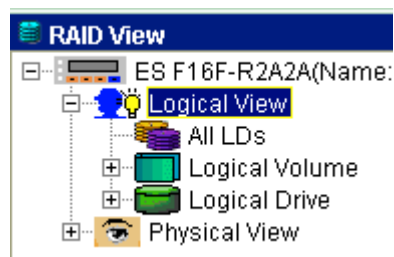
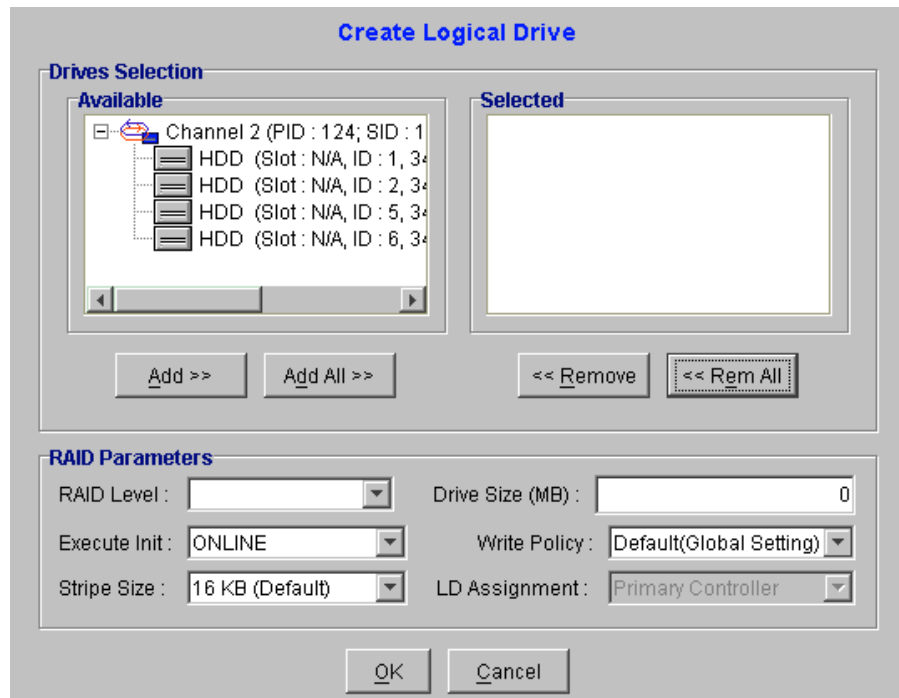
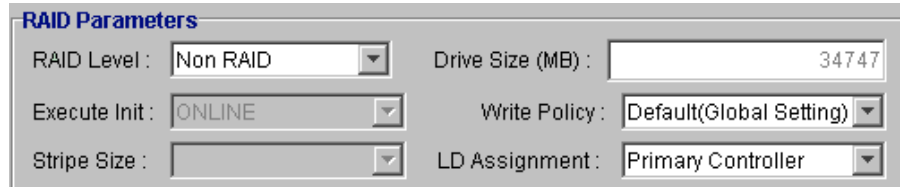
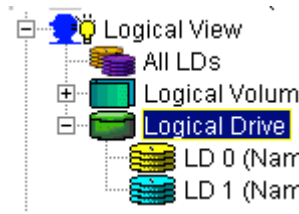

Figure 8-1: Logical View Navigation Panel
Figure 8-2: Create Logical Drive Management Window
Figure 8-5: RAID Parameter Options
Figure 8-14: List of LDs
Step 2. The items shown in *Figure 8-1* should appear in the **RAID View** navigation panel.
Step 3. For LD management, select the “Logical Drive” icon shown in *Figure 8-1*. The screen shown in *Figure 8-2* should appear in the contents panel.
Step 1. The “Available” menu in *Figure 8-2* shows the drives that are can be used to create LDs and the channels to which they have been assigned.
After the physical drives that will be used in the LD have been selected, the RAID parameters for the LD must be selected. RAID parameter options that are available are shown in *Figure 8-5* and can be accessed at the bottom of the LD Management Window shown in *Figure 8-2*.
Step 1. Click the “*OK*” button at the bottom of the LD management window shown in *Figure 8-2*.
Step 1. Select the “Logical Drive” icon from the Logical View navigation panel shown in *Figure 8-1*. As shown in *Figure 8-14*, all the LDs that have been created will appear below the “Logical Drive” icon.
Step 2. From the list shown in *Figure 8-14*, select the LD that you wish to expand. Once this LD has been selected a “View and Edit LD Partition” table will appear in the content panel. At the top of this window the two tabs (“Partition” and “Operation”) shown in *Figure 8-15*, will appear. Select the “Operation” tab.